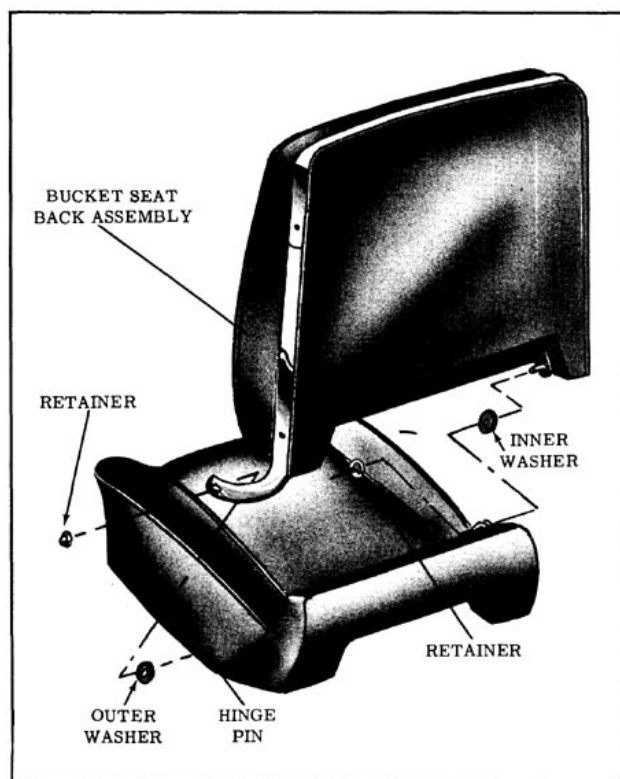

Fig. 16-101 Bucket Seat Back Removal
1. Using a flat-bladed tool, carefully remove retainer from outer hinge pin. (Fig. 16-101)
2. Tilt seat back forward and remove retainer from inner hinge pin. (Fig. 16-101)
and outer washers are installed over the hinge pins. (Fig. 16-101) In addition, inspect hinge arm retainer. If retainer is damaged, replace retainer with new part.